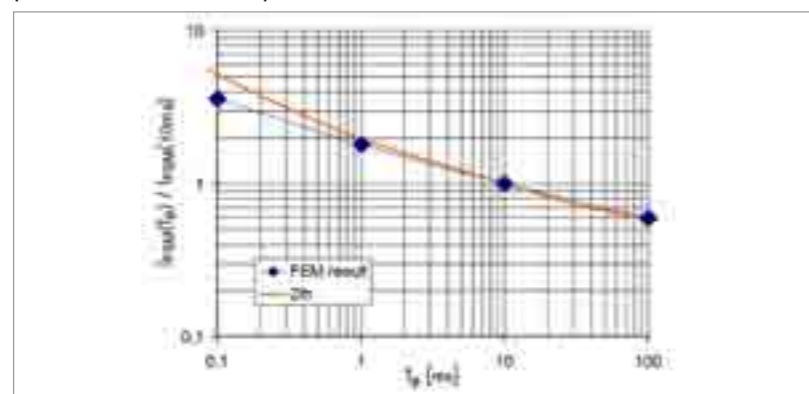

Figure 6: Normalized peak currents from the finite element simulation in comparison to the result based on the thermal impedance according to eqn. (4).
Assuming that the failure events can be described by an equal maximum temperature of the hot spots, the dependence of the maximum surge current on the pulse width can be derived from a finite element calculation. The result is given in fig. 6 together with the prediction expected from the thermal impedance model of eqn. (4).